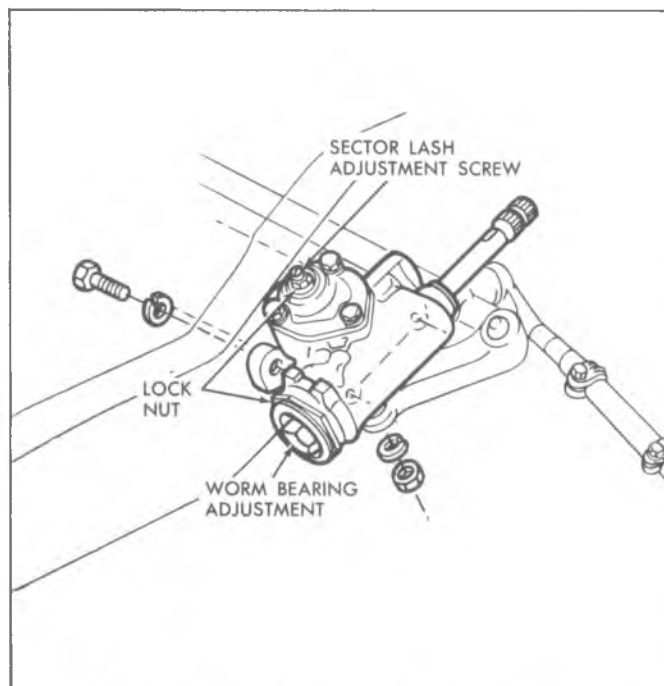

Fig. 2—Steering Gear Adjustment Points — Typical
3. Loosen the steering gear adjuster plug locknut and back the adjuster plug off 1/4 turn (fig. 2).